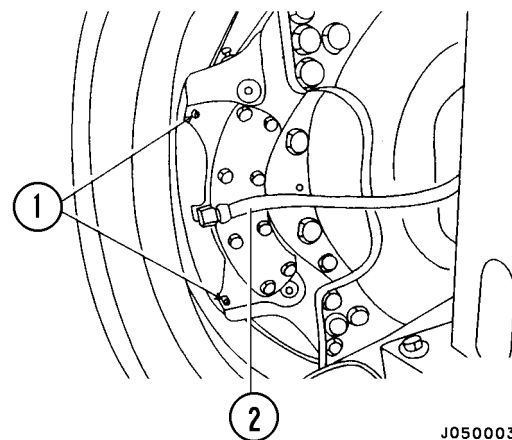

FIGURE 4-10. FRONT BRAKE PRESSURE
2. Remove the top air bleed plug (1, Figure 4-10) and install a 400 kg/cm² (5690 psi) pressure gauge.